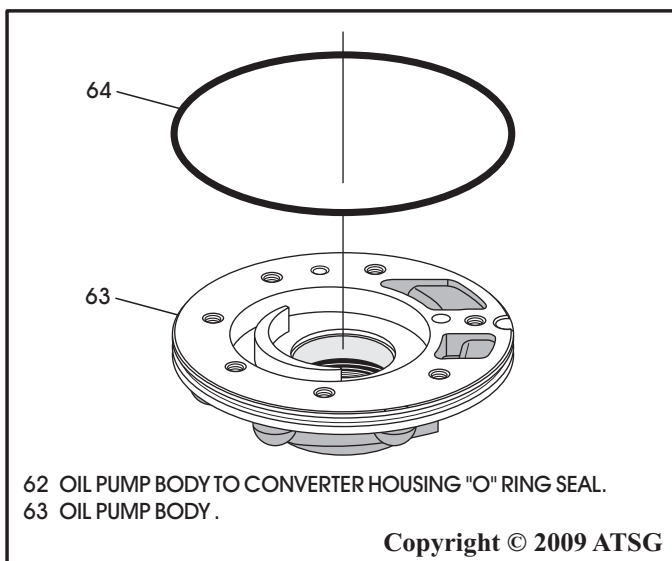

Figure 66
14. Turn the oil pump body over and install new "O" ring seal, as shown in Figure 66, and lube with a small amount of Trans-Jel®.